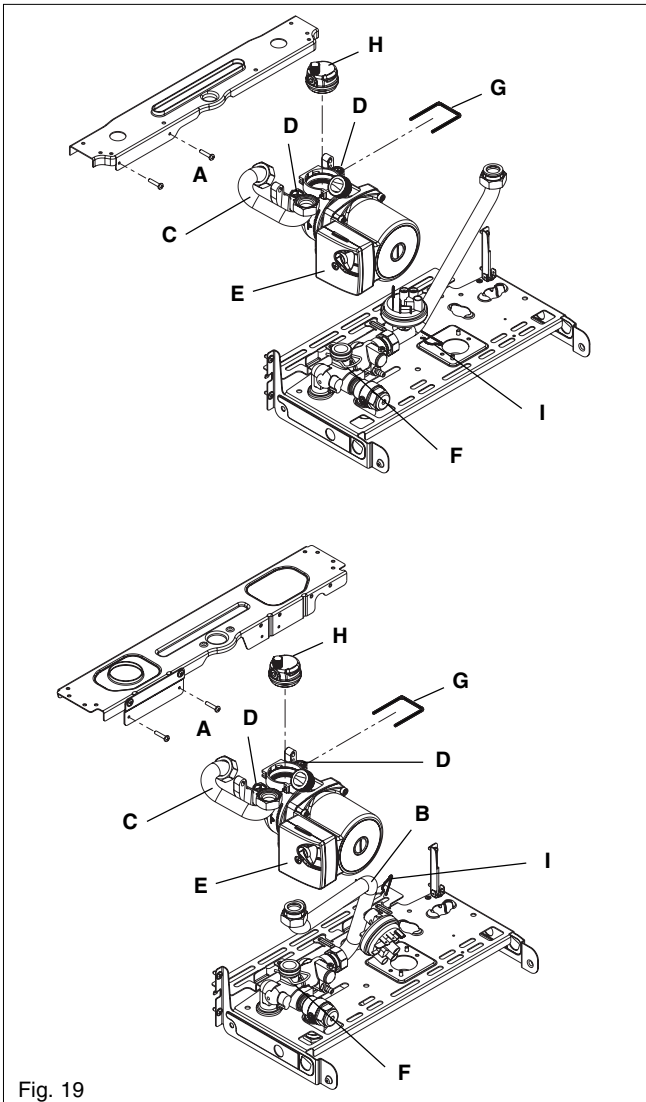

Fig. 19
6.5 PUMP ASSEMBLY (fig. 19)
6.6 SAFETY VALVE (fig. 19)
6.7 LOWER AUTOMATIC AIR RELEASE VALVE (fig. 19)
6.8 WATER PRESSURE SWITCH (fig. 19)